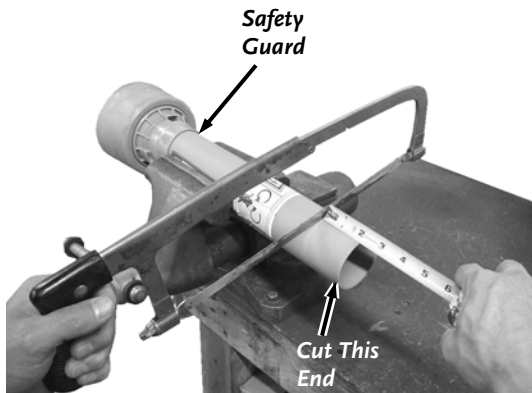

Figure 26
3. Measure and cut the ends of both Guards the required amount (**Figure 26**).